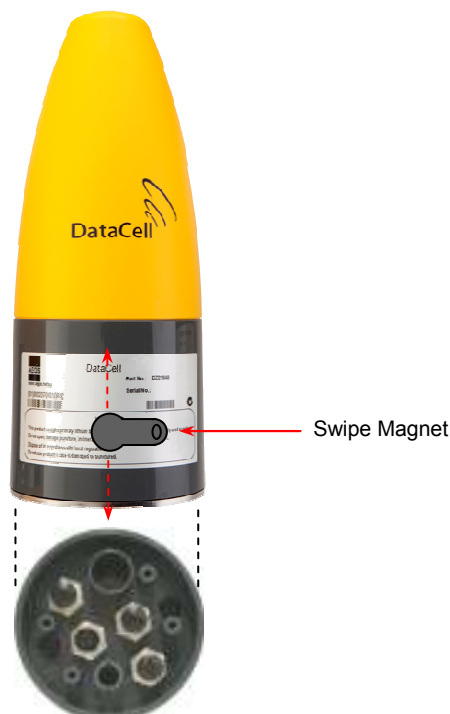

Figure 3.2.1 Waking the DataCell D
1. Hold the magnet in the location shown in figure 3.2.1 and observe that the Yellow LED is lit. Keep the magnet in place for approximately 10 seconds until the Orange LED illuminates.
3. Return the magnet to the original position; soon a Green LED will flash at which time you should swipe the unit three (3) times, by moving the magnet left to right across the label as shown in figure 3.2.1. This will temporarily cause the LED's to shut down before returning to the high power state with both the Green and Orange LED's Illuminated.
Once the DataCell D has exited Hibernation it can be woken by using the swipe magnet as follows:- Using the Swipe Magnet from the IRC Starter Kit, swipe the magnet over the side of the unit directly in line with the IRC port using a downward swiping action, see fig 3.2.1.